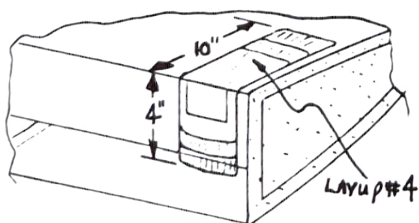

FIG. 41
Wrap and squeegee each ply, lapping 2 in. onto the bottom skin at the leading edge (see section A-A). This is best done by first painting epoxy underneath, then on each ply (1) layup skin leaving excess hanging down (2) scissor trim to 2 in. (3) wipe onto bottom with a squeegee. Successive plies can be scissored shorter to taper overlap. Wrap the skin down the inboard face similar to the bottom skin, overlapping it 1 in., peel ply the 3 in. x 12 in. strips near the attach depressions. Install **3 plies UND** layup No. 4 over the inboard wing hard point (LWA2) as shown (Fig. 41). These are 3 in. wide and 14, 10, and 6 in. long (section C-C).